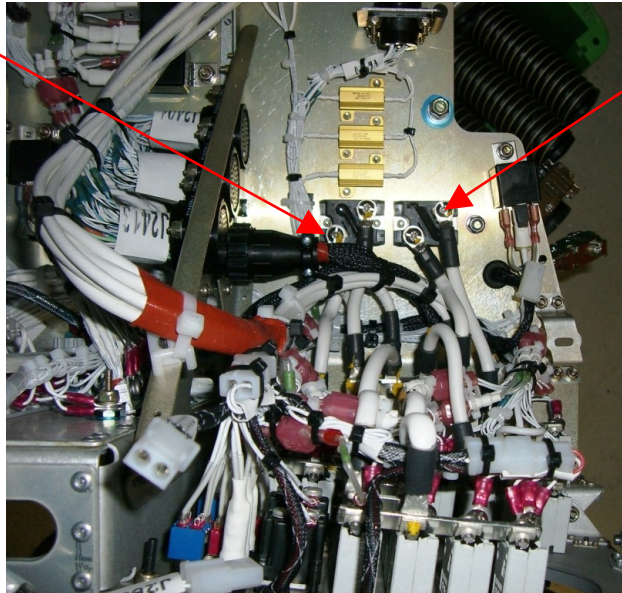

Figure 37
- 17 Connect the wires 24315A14 / 24317A14 and 24316A14 / 24318A14 to the two diodes installed on the bottom of the instrument panel sheet metal. Refer also to figure 37.